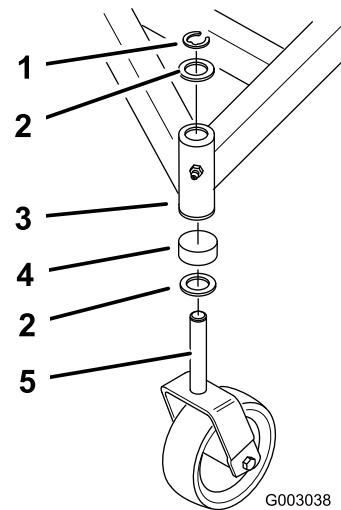

Figure 39
3. Remove the retaining ring and thrust washer(s) from the top of the castor wheel fork (Figure 39).
9. Inspect the caster wheel fork for wear and replace if necessary (Figure 39).
10. Slide the caster wheel fork through the bushings in the mounting tube. Replace the spacer(s) onto the fork and secure with the retaining ring (Figure 39).